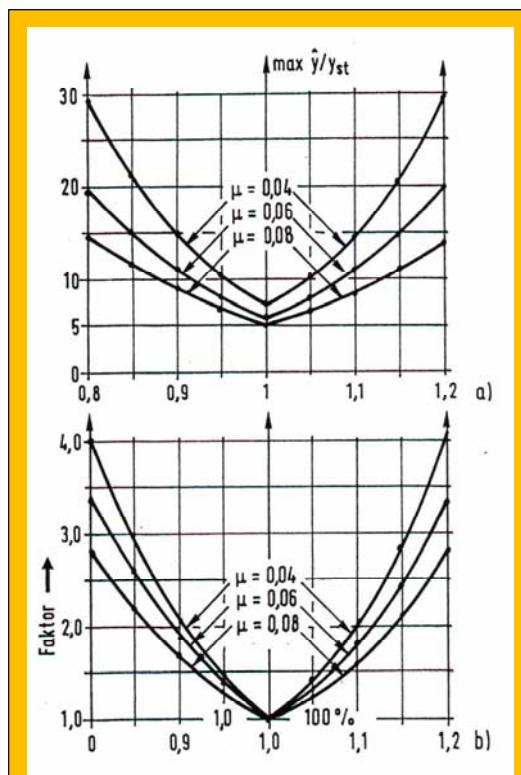
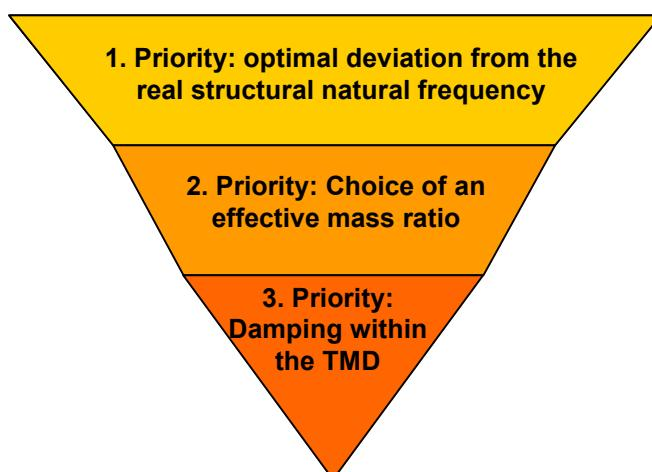

Fig. 8: Amplitude amplification factor in case the optimal deviation does not fit
Fig. 10: Priorities of three main adaptation criteria
The optimal natural frequency of the TMD is not identical with the natural frequency of the structure! The TMD frequency is out of tune to the structural frequency by a well defined value, which is the deviation with a big influence on the final efficiency of the TMD (chapter 2.1). Therefore the structural natural frequency and the kinetic equivalent structural mass has to be known. Due to the complexity of structures and the lack of knowledge of stiffness values (soil, bearings, etc.), it is usually difficult to determine exactly the natural frequency of the structure to be damped. This is valid also for the kinetic equivalent mass. In the upper part a) of Fig. 8 the value $\max y/y_{st}$ for the three different mass ratios 0.04, 0.06 und 0.08 is shown along the relation k/k_{opt} (on horizontal axis).
- 1) The most important criteria is the optimal deviation (Fig. 10) from the structural natural frequency. In case the TMD frequency including the defined value for the deviation is not optimally fitting to the structure, already small frequency deviations can result in major efficiency loss of the TMD (Fig. 8).